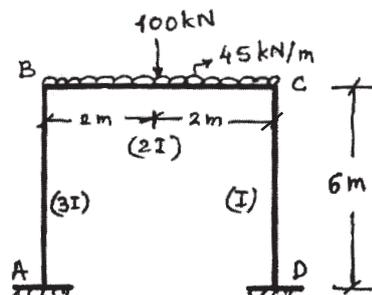

Fig. 2
- Q2)** Analyse the rigid frame shown in Figure 2 using Slope - Deflection method. Draw B.M.D. showing all salient points. [16]